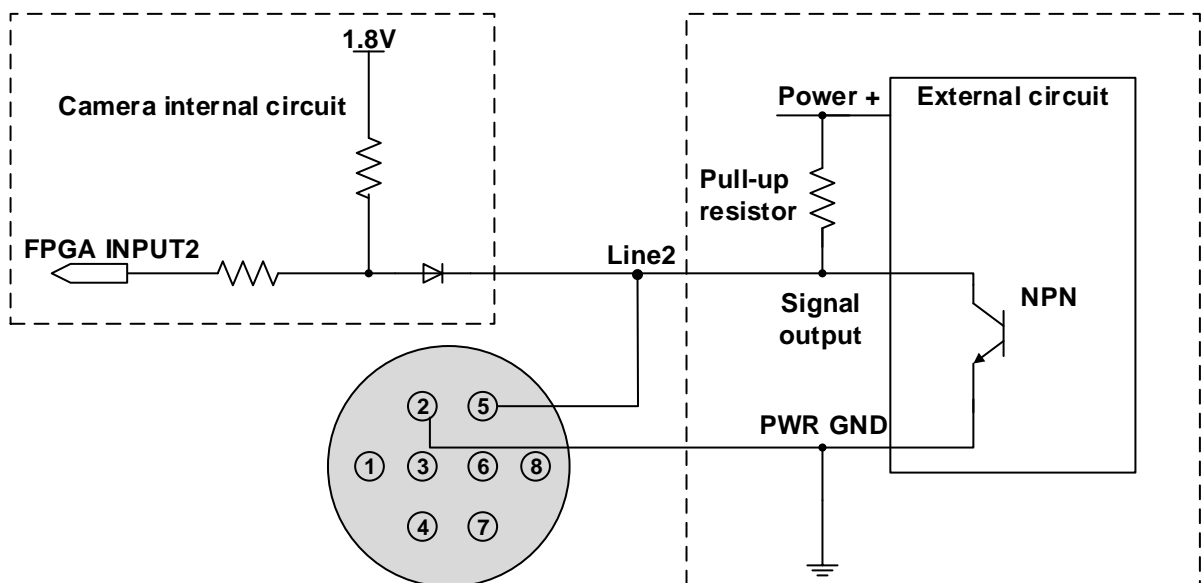
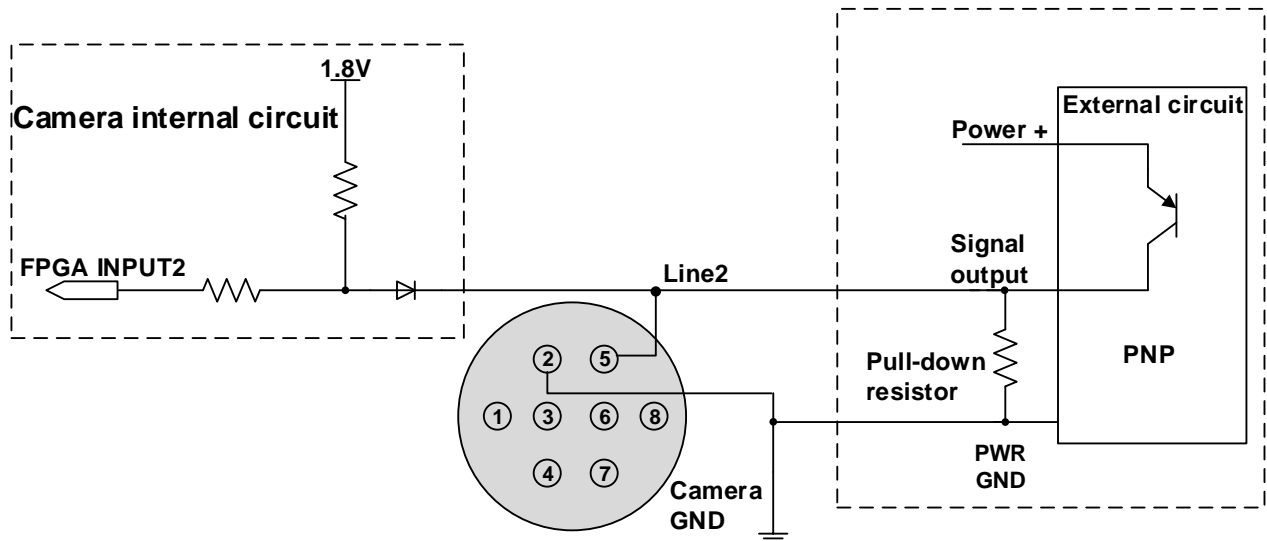

Figure 7-18 NPN photoelectric sensor connected to Line2 input circuit
Figure 7-19 PNP photoelectric sensor connected to Line2 input circuit
- When input of Line2 is high, input current is lower than  $100\mu A$ . When input of Line2 is low, input current is lower than  $-1mA$ . When Line2 is configured as input. The connection method between them and NPN and PNP photoelectric sensors is shown in Figure 7-18 and Figure 7-19. The relationship between the pull-up resistor value and the external input voltage is shown in Table 7-3